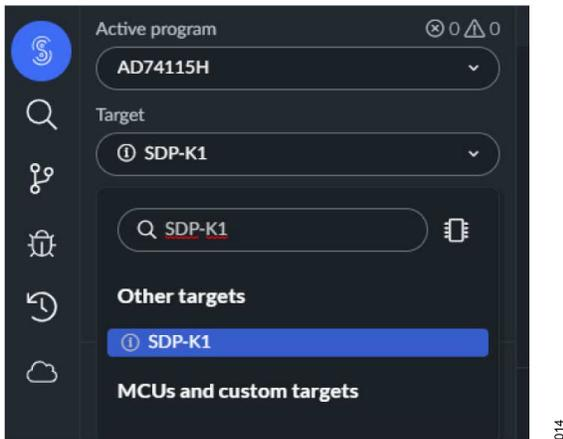

Figure 14. Choose SDP-K1 Platform
3. Choose the SDP-K1 board as the platform or target hardware (see **Figure 14**).